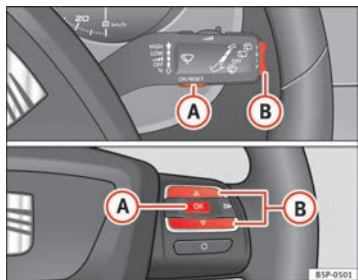

Fig. 39 Rocker buttons A and B. Steering wheel controls.
A **Service pre-warning** will appear in the mileage displays if a service is due soon. A “spanner” symbol appears and the display “km” with the distance that can be driven until the next service appointment is due. The display will change after approximately 10 seconds. A “clock symbol” appears and the number of days until the service appointment should be carried out. The following message is shown in the dash panel display: **SERV. IN ... KM OR ... DAYS**. The service message will disappear approximately 20 seconds after the ignition is switched on or the engine is running. The normal display can be resumed by pressing the reset button on the trip counter or by pressing the rocker switch of the MFI ⇒ page 62, fig. 39 ⑤.
- When the ignition is on, briefly press button \Rightarrow fig. 39 **A** on the windscreen wiper lever to change from one memory to another or press button **A** on the steering wheel controls \Rightarrow fig. 39.